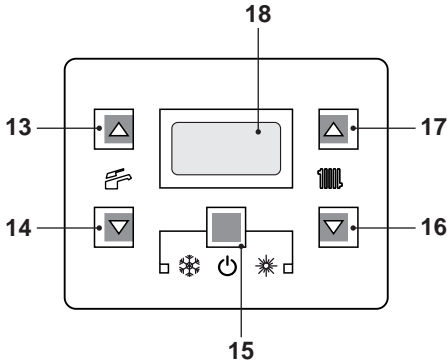
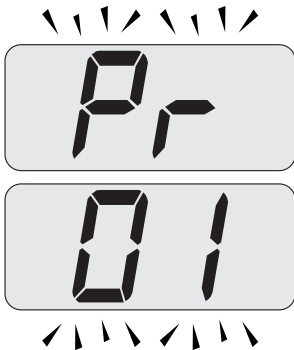
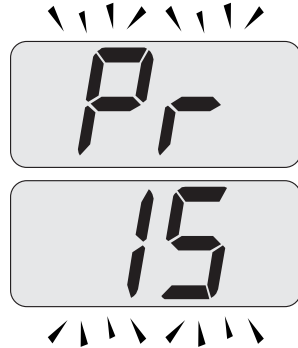

Fig. 7.16
Fig. 7.17
Fig. 7.18
- Enter in "programming mode" by pressing keys 15 - 16 - 17 (Fig. 7.16) for 10 seconds at the same time until the letters **Pr** that alternate with code 01 are displayed on the LCD display, indicating that "parameter 01, has been activated (Fig. 7.17).
- Scroll the various parameters using keys 16 or 17 until the letters **Pr** that alternate with code **15** are displayed on the LCD display, indicating that "parameter 15"(Fig. 7.18) has been activated.
- Press keys 15 and 17 (Fig. 7.16) at the same time until the value of parameter 15 (Fig. 7.19) is displayed on the LCD display.
- By pressing key 15 (Fig. 7.16) confirmation of the inserted value is obtained.
- Press keys 15 and 16 (Fig. 7.16) at the same time to exit without changing the value (return to the parameters list Fig. 7.18)
- Press keys 15 - 16 - 17 (Fig. 7.16) at the same time for 10 seconds to exit the "programming mode.
However, if the ambient temperature is not comfortable, the flow temperature of the heating plant can be increased or reduced by  $\pm 15^\circ\text{C}$  by acting on keys 16 (reduce) and 17 (increase) (Fig. 7.16).